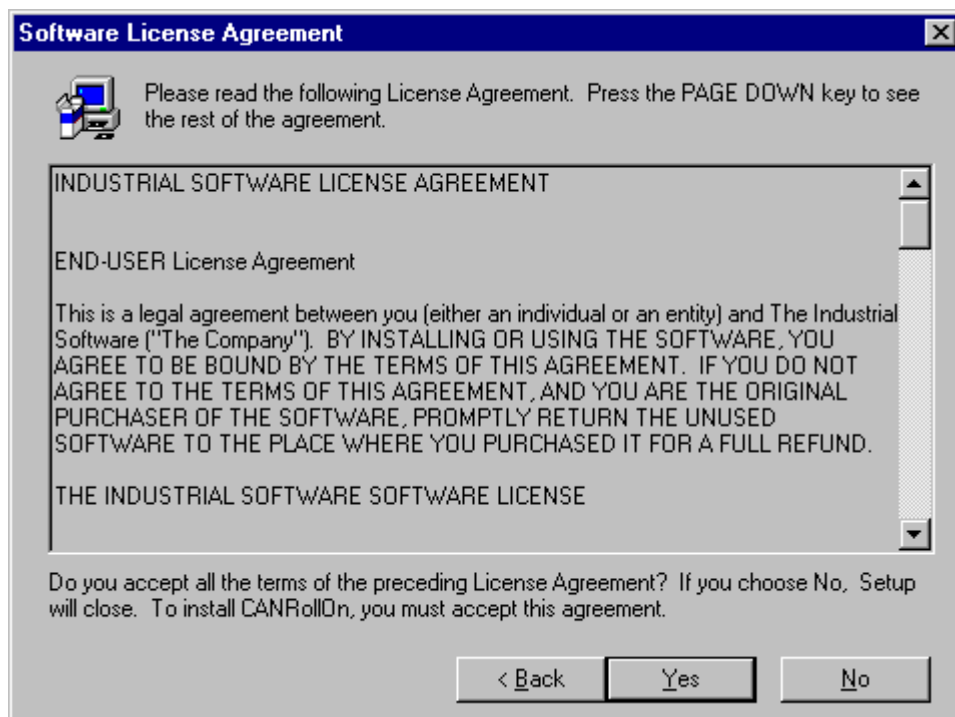

Fig. 3.2
- Click **Next** button to proceed with the installation - the **Software License Agreement** dialog box appears as shown in Fig. 3.2.